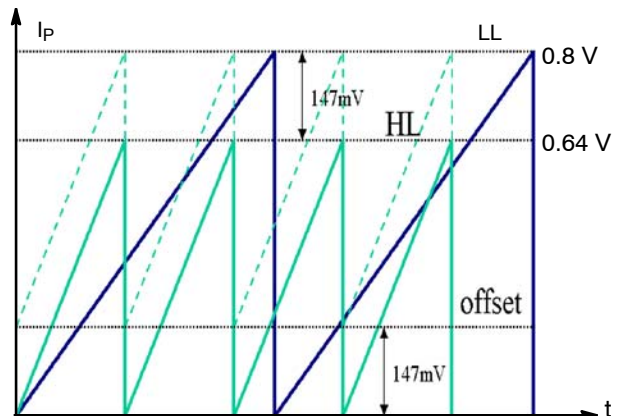
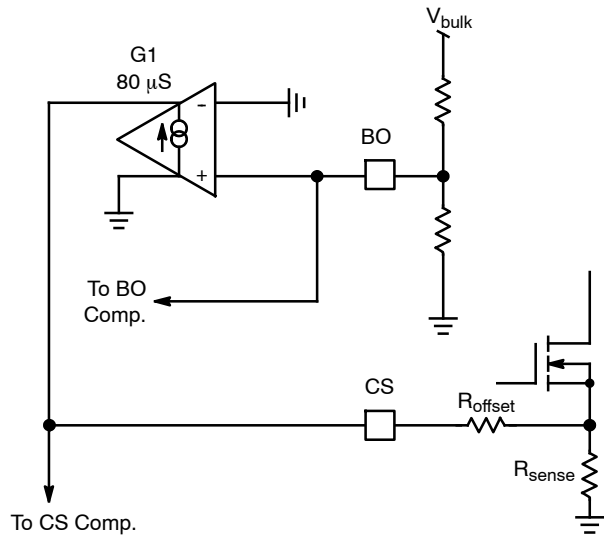

Figure 19. A Possible Way to Compensate the Current Excursion Lies in Offsetting the Current Floor
Figure 20. A Transconductance Amplifiers Transforms the BO Voltage into a Current
0.25 = 653 mV at high line. Figure 19 shows the situation at both line levels. A possible solution lies in offsetting the current floor by the necessary value, which is, in our case, $0.8 - 0.653 = 147$ mV. The traditional way of doing this goes through the wiring of a high value resistor to the bulk capacitor. This unfortunately dissipates heat. The NCP1381/82 offers a more elegant option since it transforms the voltage available from the Brown-out pin into a fixed current, routed to the CS pin. That way, we can calculate a resistor value which, once inserted in series with current sense voltage image, will create our necessary offset. Figure 20 shows this internal connection: